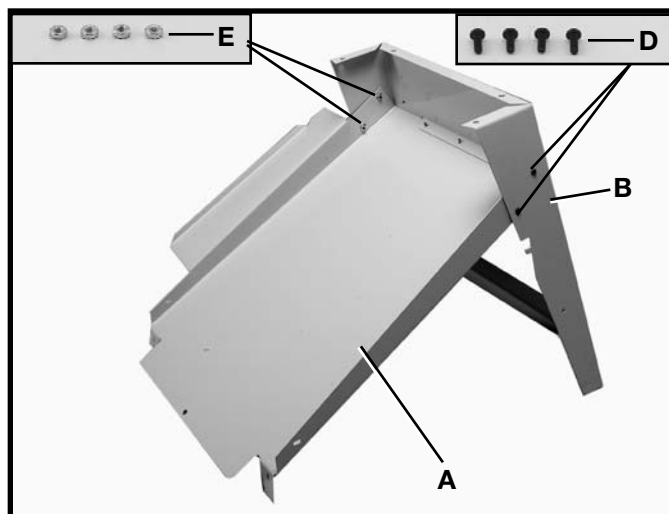

Fig. 6
2. Insert four #10-32 x 1/2" screws (D) Fig. 6 through support panel and dust chute. Install four #10-32 hex nuts (E) Fig. 6. **NOTE:** The front stand panel will have the saw identity labels facing you. Do not completely tighten the stand hardware at this time. Also, make certain the dust chute/support panel (A) Fig. 6, is located under the lip of front stand panel (B).